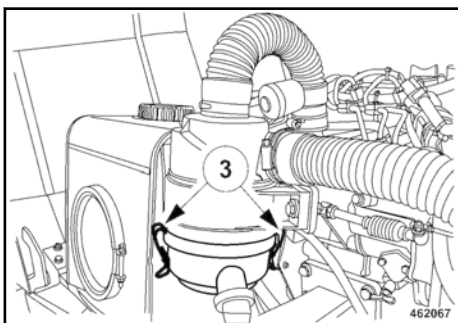

Fig. 130
Insert the air filter cartridge, attach the housing cover and fasten with fastening clamps (3) ↗ Fig. 130.